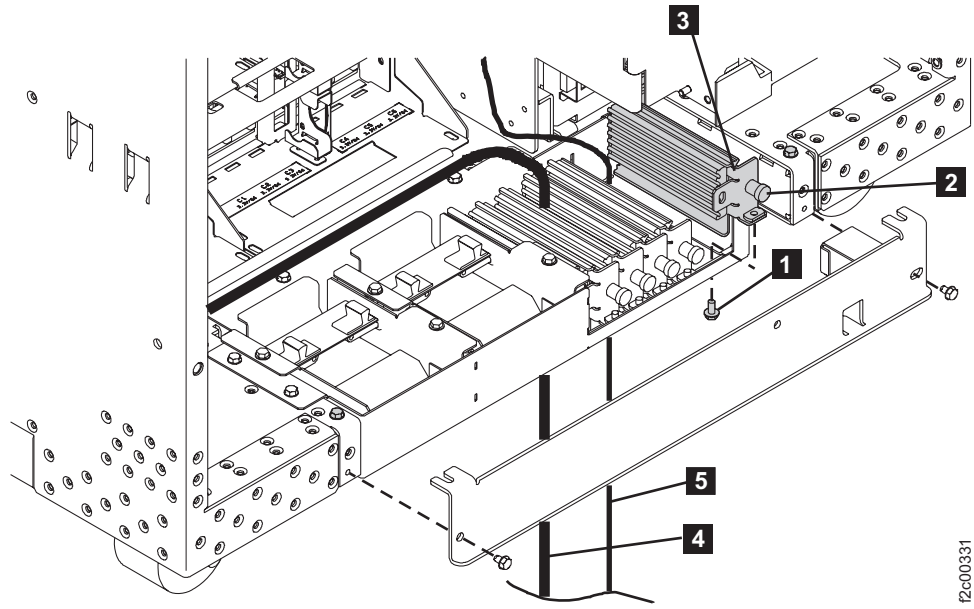

Figure 24. RIO & SPCN cable (remove or install)
- a. For the earlier version of the tailgate design (5 cable slots to the right) as shown in Figure 24 on page 29, remove the cable retention clamps **3**, as appropriate. Do this by removing the screws **1** from the underside and releasing the retention pins **2**.